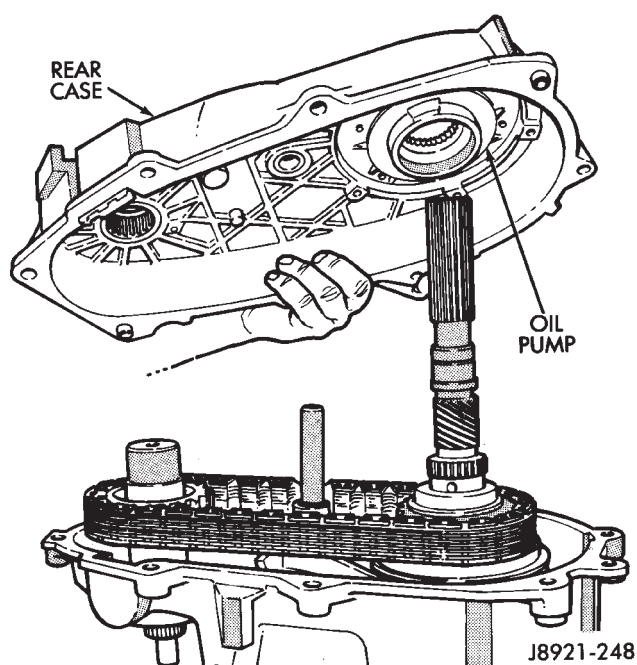

Fig. 6 Removing Rear Case And Oil Pump
(12) Remove rear case and oil pump as assembly (Fig. 6).